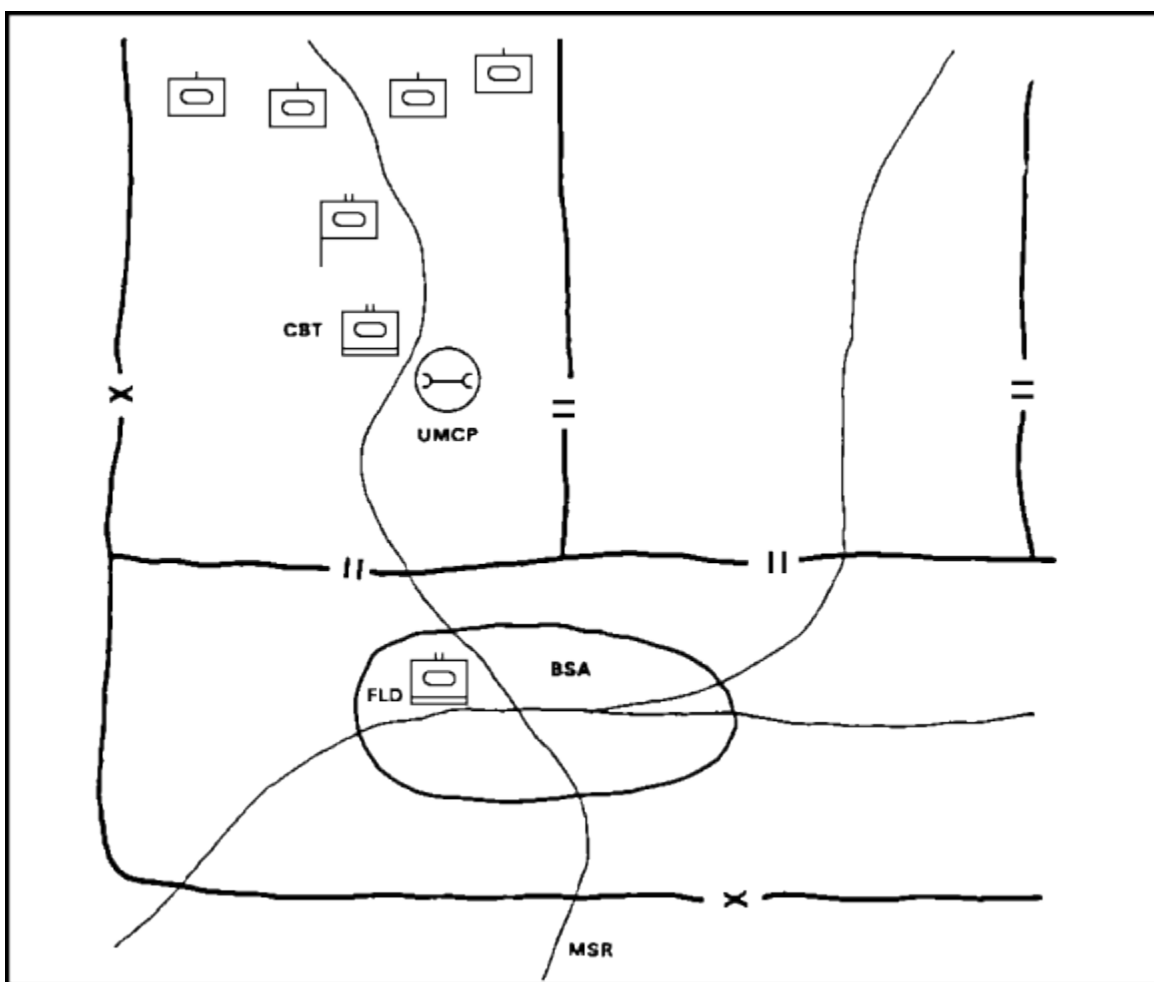

Figure 2-2. Echeloned trains
g. Task Force Trains. Trains may be centralized in one location (unit trains), or they may be echeloned in three or more locations (echeloned trains) as shown in Figure 2-2. Unit trains are formed in assembly areas and during extended tactical marches. Forming unit trains with a centralized rear CP provides ease of coordination and control, and increases trains' security. Unit trains are controlled by the S4 with the assistance of the S1.